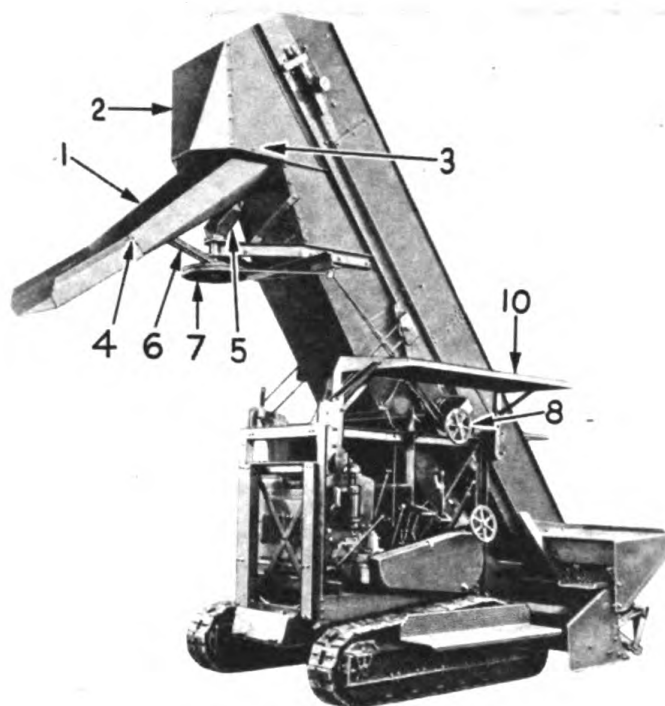

Figure 85. Swivel spout.
Inside the discharge hood (2) Figure 85 is mounted a baffle behind plate (3) which concentrates the material for discharging into the swivel spout (1). The swivel spout is used for distributing the loading material. The spout is controlled from the operator's platform and can be turned 180° — therefore trucks can be loaded when spotted anywhere within this range. When used on material which is to be aerated the spout can be used swiveled to maximum for discharging on either side when shifting windrows.